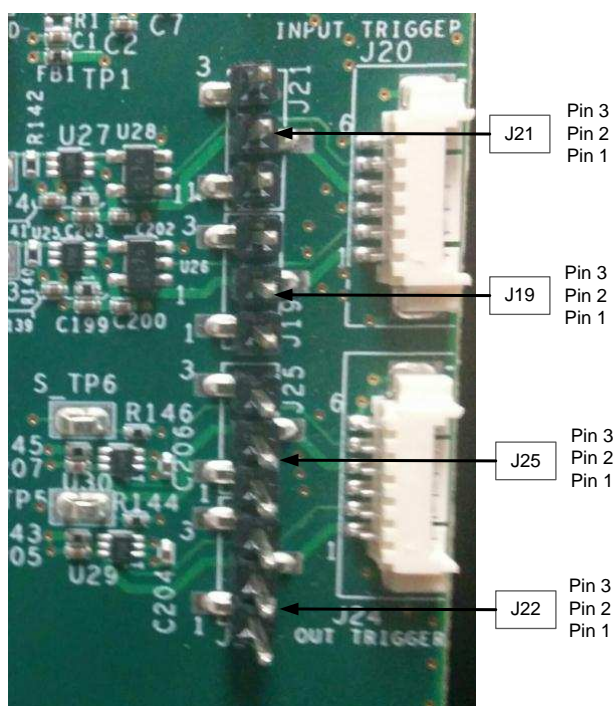

Figure 1-6. LightCrafter 6500 Trigger Voltage Level Selectors
- J19 – Trigger input voltage level selectors. See Figure 1-6.
- J21 – Trigger input voltage level selectors. See Figure 1-6.
- J22 – Trigger output voltage level selectors. See Figure 1-6.
- J25 – Trigger output voltage level selectors. See Figure 1-6.
Both input and output triggers have voltage level selectors. Use J19, J21, J22, and J25 to select the voltage as shown in Figure 1-6. If no voltage is selected, then the onboard logic will not be functional and any outgoing or incoming signals will not be available.